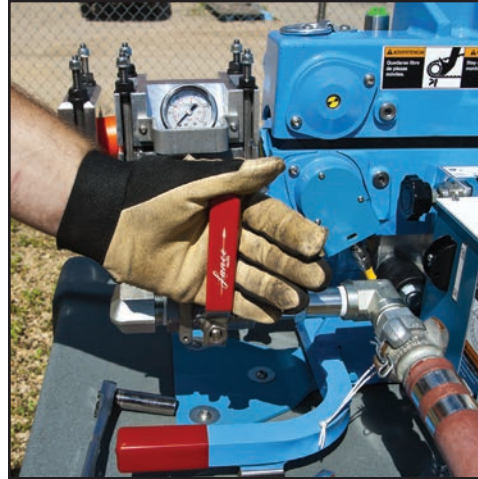

Figure 33. Close Air Control Valve
a. Close Air Control Valve (Figure 33).